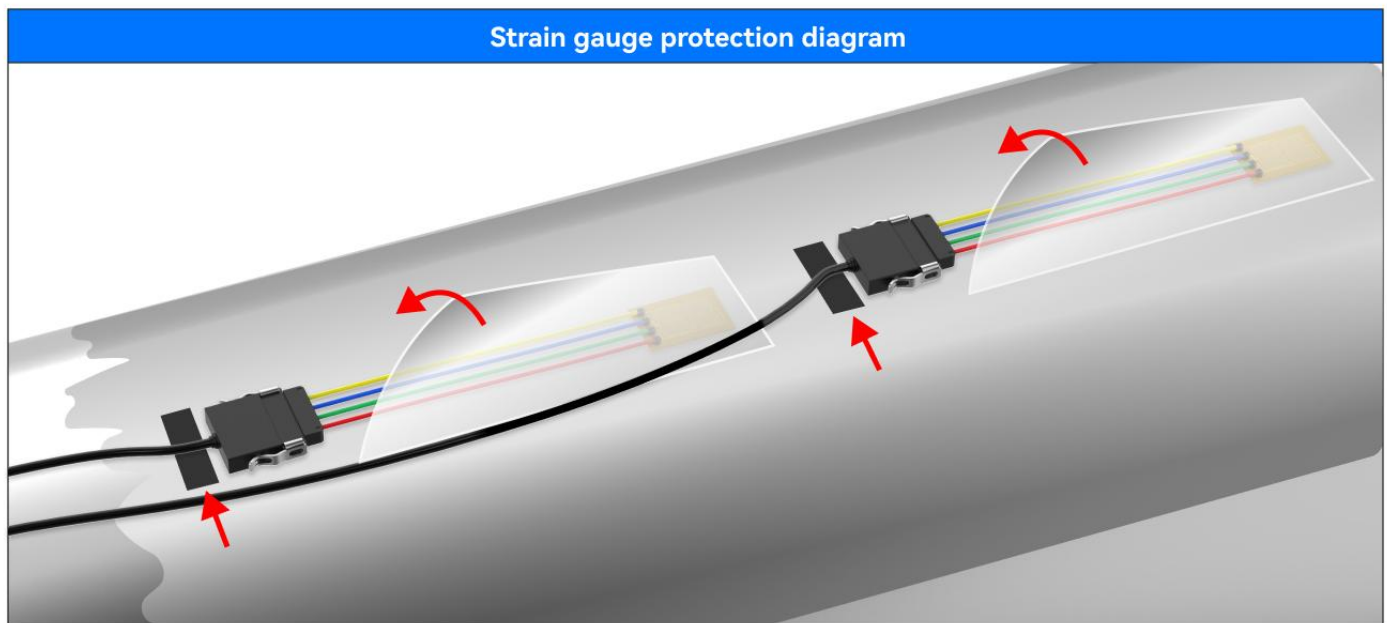

Figure 3.21
2. Cut two strips of tape to cover the strain gauge and connector (approx. 30mm) and glue each strain gauge to the clean area where the two strain gauges are bonded to the shaft, but not to the coating just applied, as shown in Figure 3.21.